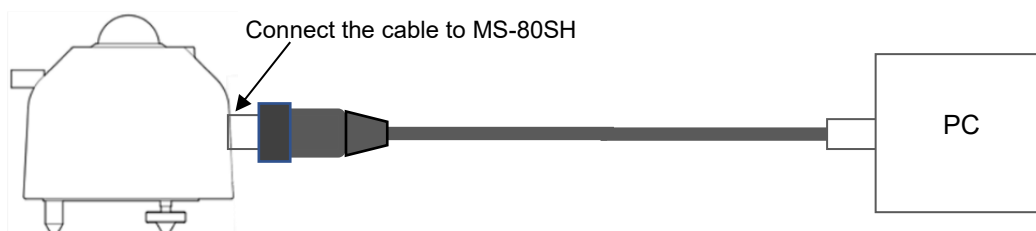

Figure A3-2. Using "EKO Converter cable"
- 4) If you use the optional 'EKO Converter Cable', you can install it simply by inserting the cable connector into the main unit. Power for the MS-80SH can be supplied via USB. (See Figure A3-2).